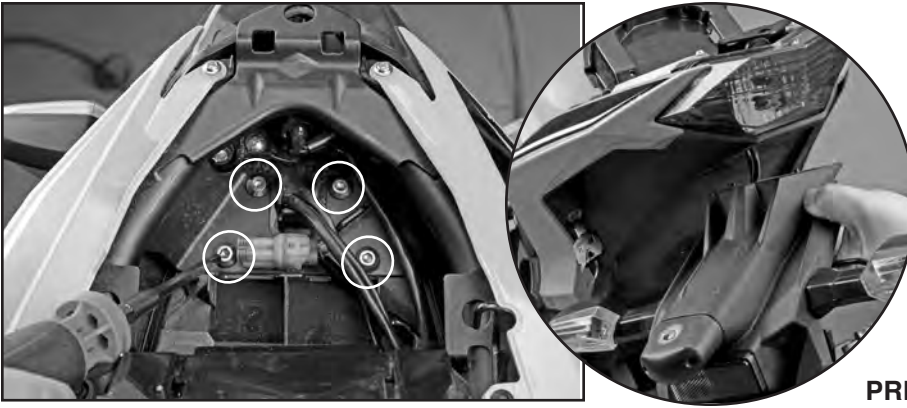

Figure 2
3. Remove the 4 screws holding the turn signal / license plate bracket assembly. **(5mm Hex Wrench) Figure 2**